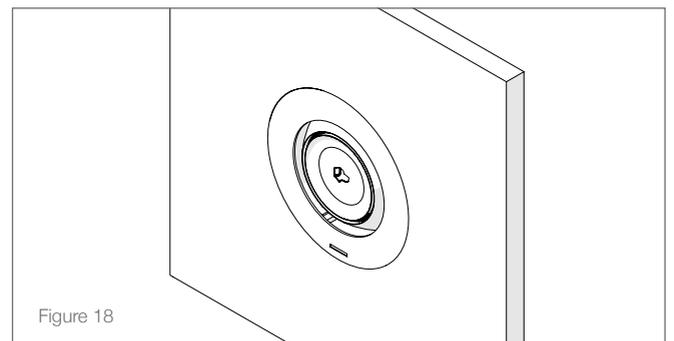

Figure 18
4. Place the Fascia into position around the Josh Micro device (see Figure 18).